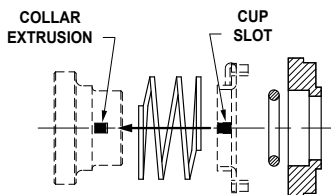

Figure No. 3
- b. Place cup on the top of the spring and rotate the cup until the tab on the bottom of the cup abuts the end of the spring coil. Line the notch in the cup with the extrusion pin on the drive collar. (see figure no. 3)
- d. Check to make sure that slot in cup is still aligned with the extrusion in the drive collar. (see figure no.3)